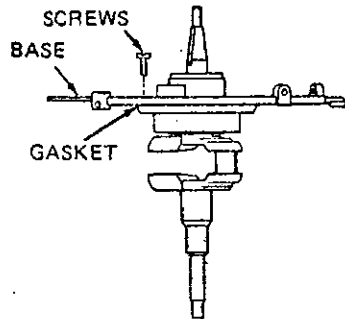

Figure 15. Types 642 and 643 base assembly and crankshaft are removed together from the cylinder.
- b. On models with ball-type upper (magneto end) main bearing, the magneto and fan housing base assembly must be heated to remove crankshaft and upper bearing. When base assembly reaches nearly 400 degrees F. (204 degrees C.), the crankshaft and bearing should slide easily from bore. To remove bearing from crankshaft, remove retaining ring, heat bearing with torch, then carefully press bearing from crankshaft. Be careful not to damage crankshaft and do not attempt to re-use bearing. (See Figure 15).